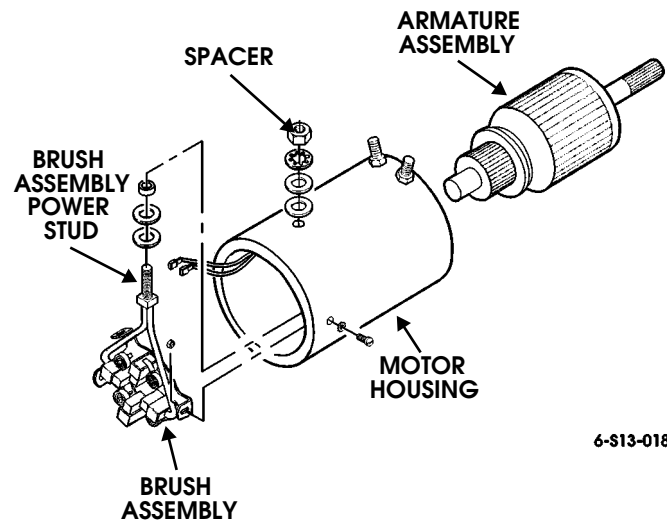

Figure 13-25: Brush Assembly and Armature Assembly
8. Remove motor housing from drum support and armature assembly from brush assembly (Figure 13-25).
1. Install washer, insulator, and spacer on brush assembly power stud (Figure 13-25).